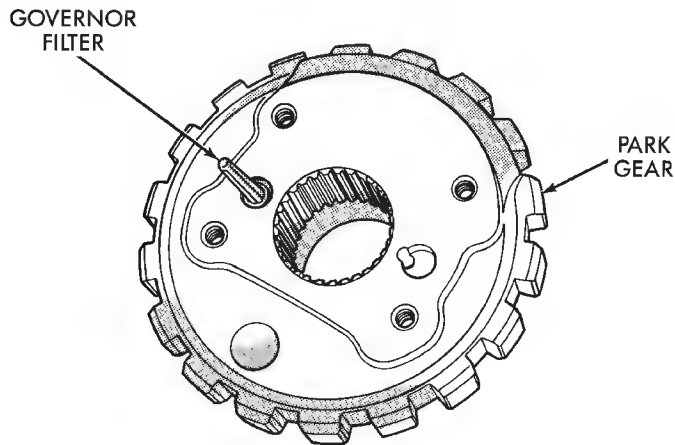

Fig. 16 Governor Filter Position
(1) Remove bolts attaching governor body to park gear; then separate body from gear.
- (2) Remove cone shaped filter from park gear (Fig. 16).
(3) Insert filter screen in park gear. Note that gear has one filter bore that is concentric and one that has a notch in it. Filter goes in bore that is concentric as shown (Fig. 16).
(4) Position governor body on park gear. Be sure filter is properly aligned in body recess.
(5) Install governor body bolts. Do not fully tighten bolts at this time.